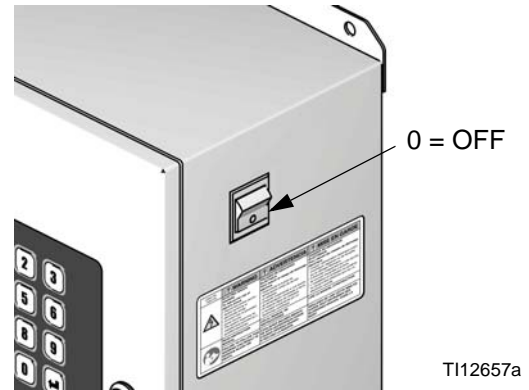

FIG. 12: Power Off
3. Shut off ProMix 2KS power (0 position). FIG. 12.